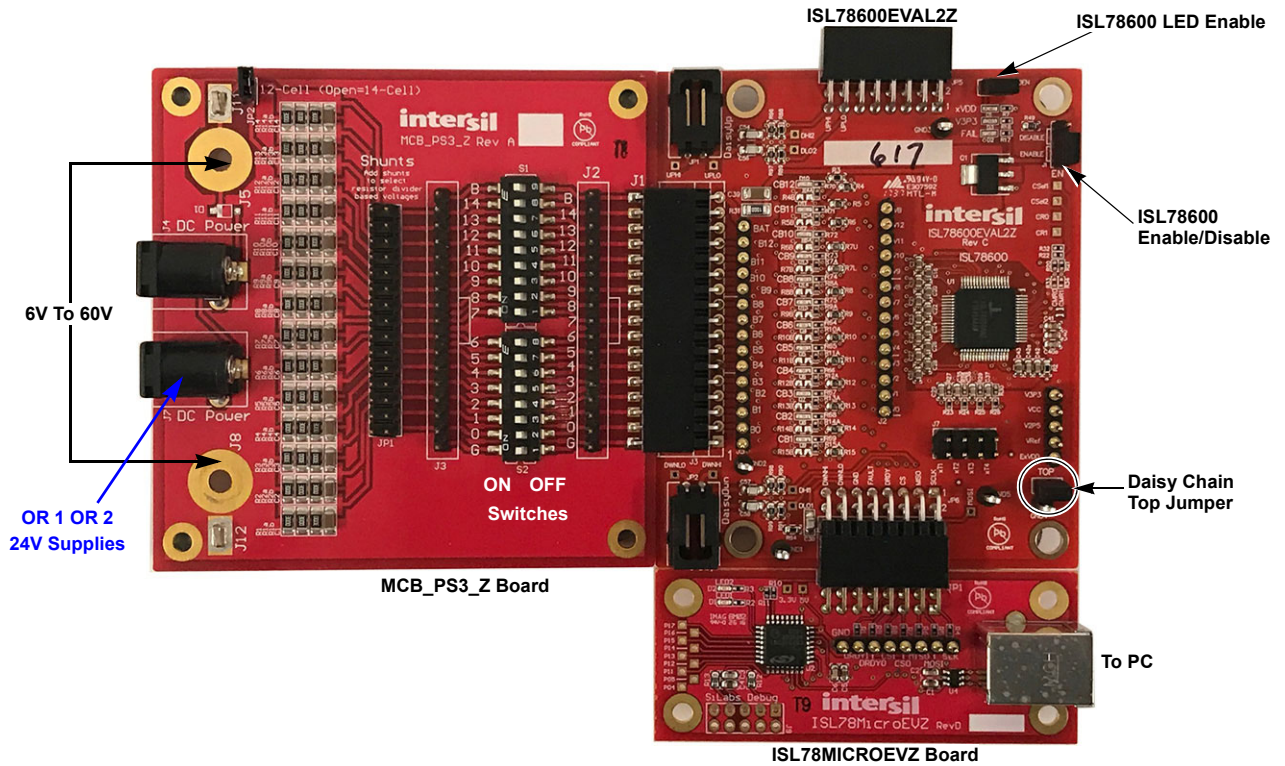

Figure 5. ISL78600EVKIT1Z Rev C Single Board Setup
- Connect the microcontroller board (ISL78MICROEVZ) connector JP₁ to the ISL78600EVAL2Z board connector JP₆ (see Figure 5 on page 6).